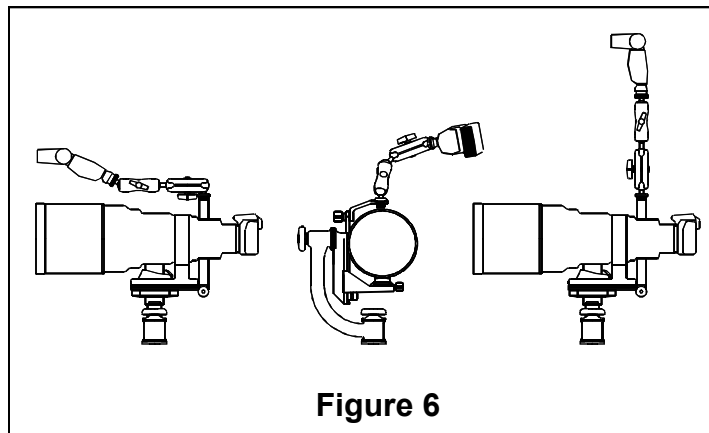

Figure 6
1. Add the Wimberley M-4 Macro Arm Module™ by attaching it to, or substituting it for, the M-3 Tilt Arm. This allows you to add more flash positioning versatility to your telephoto photography (*Fig. 6*).